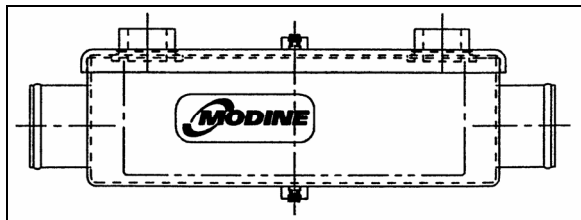

FIGURE 12: MODINE OIL COOLER
2. Disconnect the two transmission hoses from oil cooler. Cover hose ends and fittings to prevent fluid contamination (Refer to fig.12).